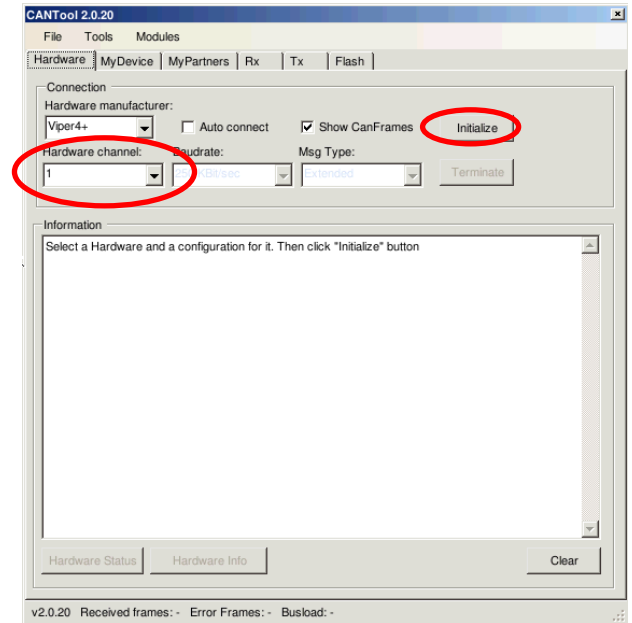

Figure 5 CANTool – Hardware.
3. Choose the correct *Hardware Channel*. If a 'Harness in-cab (Terminal) VPR4' (SBG19711-09) is used choose "1". If a 'Harness, In-cab VPR4 ISO' (11158000064) is used choose "2" (Figure 5).
4. Click *Initialize* (Figure 5).